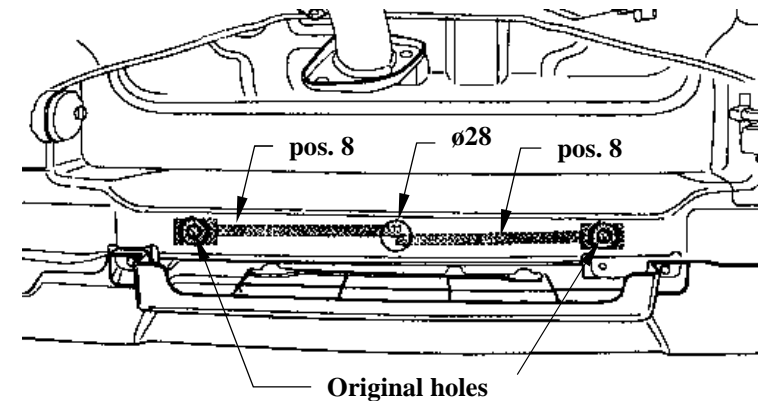

Fig. 4 The jibs placement
4. According to figure 4 drill hole $\varnothing 28$ mm underneath the car.
5. Through made hole insert nuts on the jibs (pos. 8) in this way so nuts agree with original holes. Fix loosely couplers (pos. 6 and 7) using bolts M10x35mm (pos. 14). Remember to put washer M14 (pos. 17) between couplers and frame of the car.
6. Hole X blind using rubber plug (pos. 24).
7. Fix main bar of the towing hitch (pos. 1) to the frame of the car using bolts M12x1,25x30mm, M12x1,25x40mm and using bolts M12x1,25x50mm through handles (pos. 4 and 5). On the right side on the handle pos. 4 fix original towing eye.
8. Fix body of the automat (pos. 15) and the socket plate (pos. 3) using bolts M12x25mm (pos. 9) from accessories. Place tow-ball (pos. 2) according to supplied instruction.